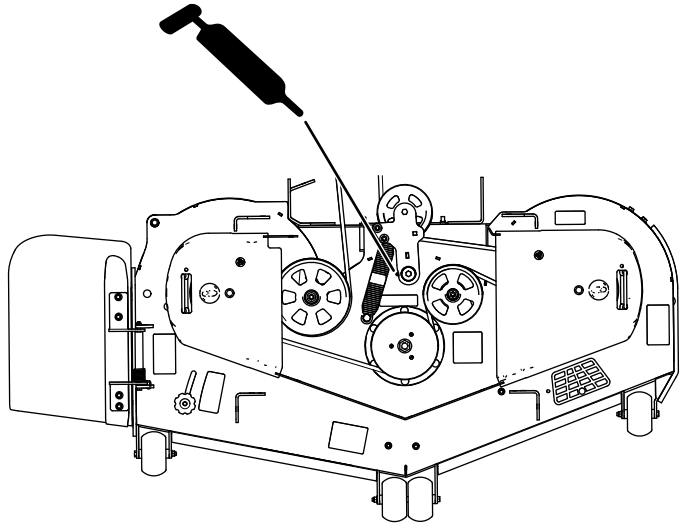
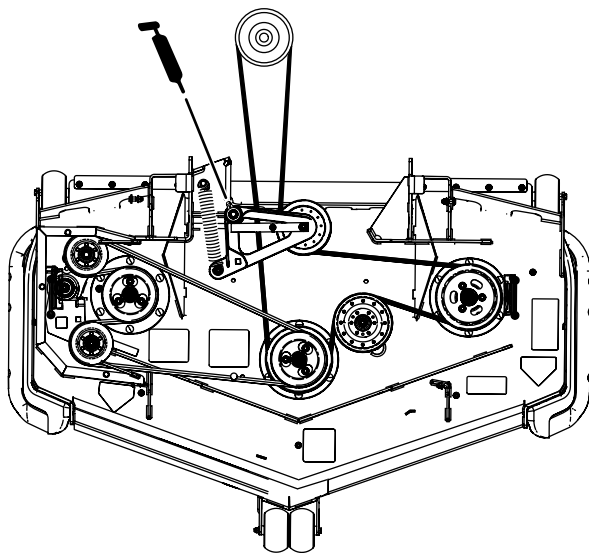

Figure 50
Figure 51
3. Grease the mower deck idler-pulley pivot until grease comes out the bottom (Figure 50 or Figure 51).